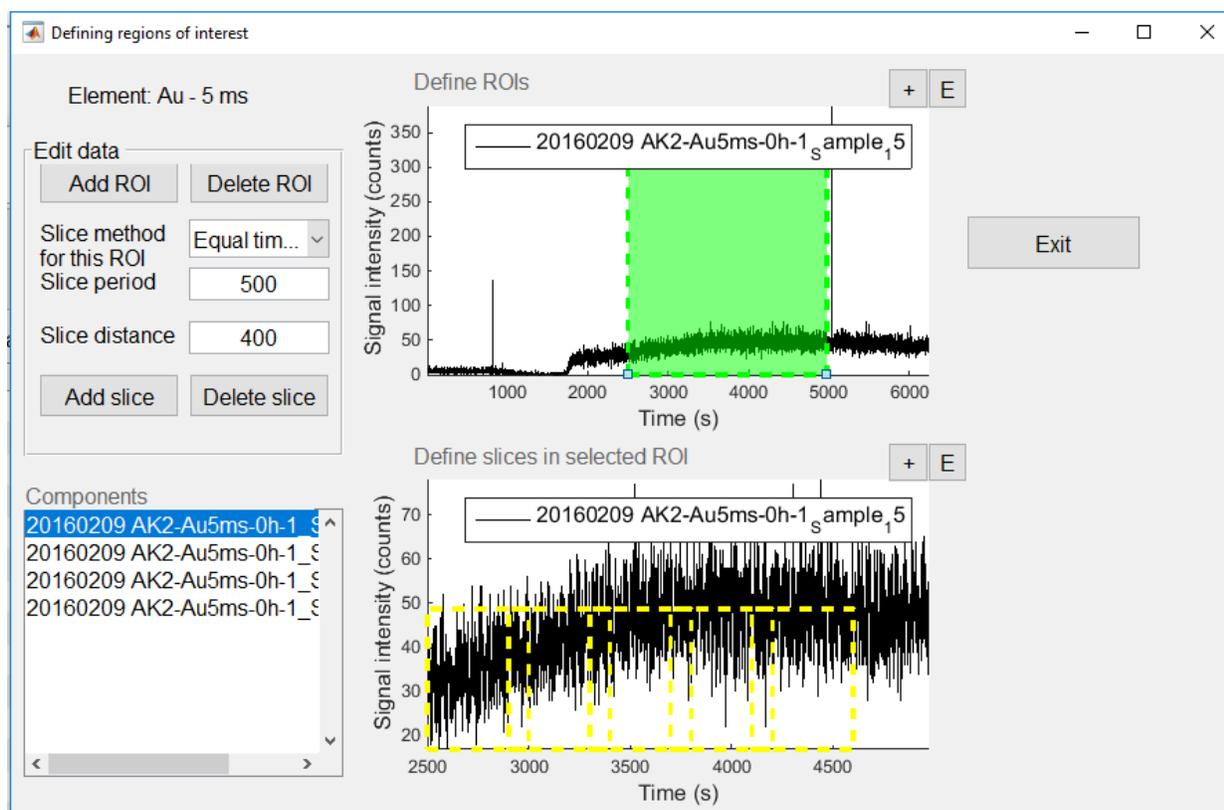

Figure 23. The Assign ROIs tool.
- Overlapping slices (see Figure 23): PSDs are calculated from moving windows over the whole ROI.
Figure 23 shows the assign ROI tool’s functionalities.